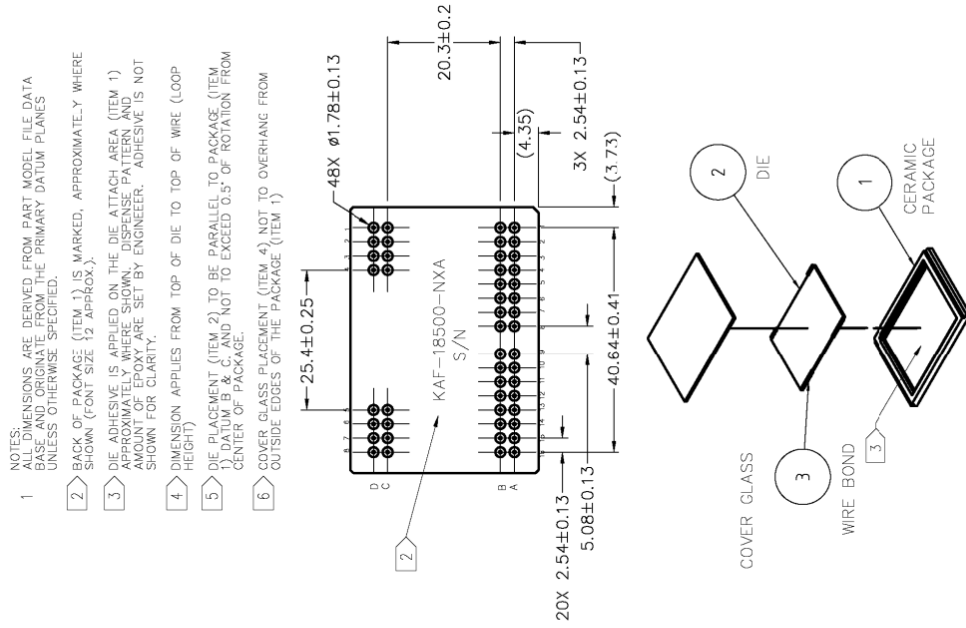

Figure 17. Completed Assembly Drawing
2. Substrate material: Schott S8612 whose performance is as published and specifications controlled by Schott, North America. The cover glass supplied for this device is as shown in Figure 17. Data supplied in the graph below is a typical transmission of the AR coated material at 0.8 mm thickness.